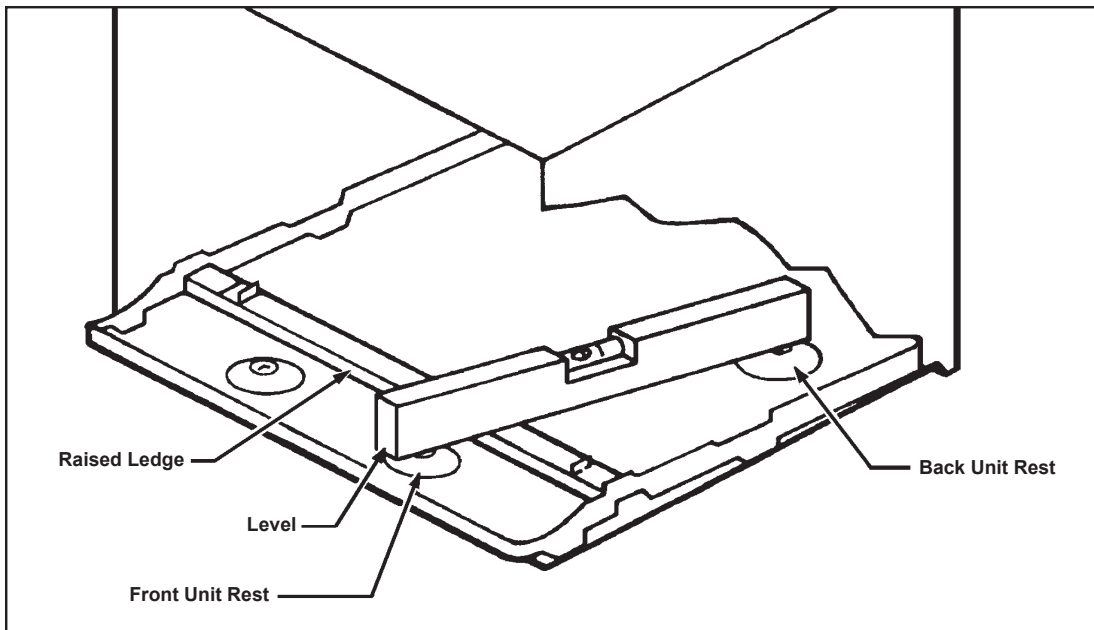

Figure 8
- Adjustable SUBBASE (SB) or other unit support must be provided for panel wall type construction and for walls less than 8" thick.
- A minimum distance of 1" must be allowed on all sides of the unit to adjacent wall and floor. Where the subbase is required, the minimum distance from the floor to the sleeve must be 3 ½". To minimize chances of short cycling of the compressor, the minimum clearance between the ceiling and the top of the unit should be 24". (See Figure 8).
- STEP 4** The WSC SLEEVE must also be installed with a downward tilt toward the outside of the building. If a level is placed so that it rests on the FRONT and BACK UNIT REST as shown in Figure 8, a properly installed unit provides a  $\frac{1}{2}$  bubble slope to the outside of the building.